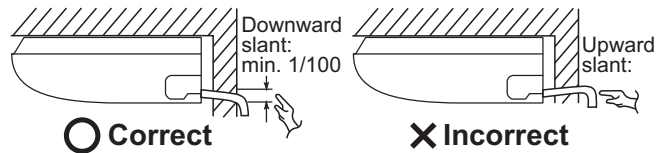

Fig. 1-49
- Connect the drain pipe so that it slopes downward from the unit to the outside. (Fig. 1-49)